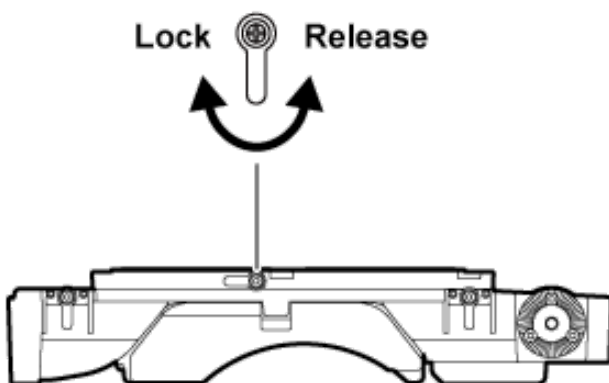

Fig. 1
- 1 Release the fixing by turning the slide rail lock knob anticlockwise. (Fig. 1)
- 5 **Adjusting the slide position of the camera considering its weight balance, and lock by turning the slide rail lock knob clockwise. (Fig. 1)**
- 1 **Release the fixing by turning the slide rail lock knob anticlockwise. (Fig. 1)**